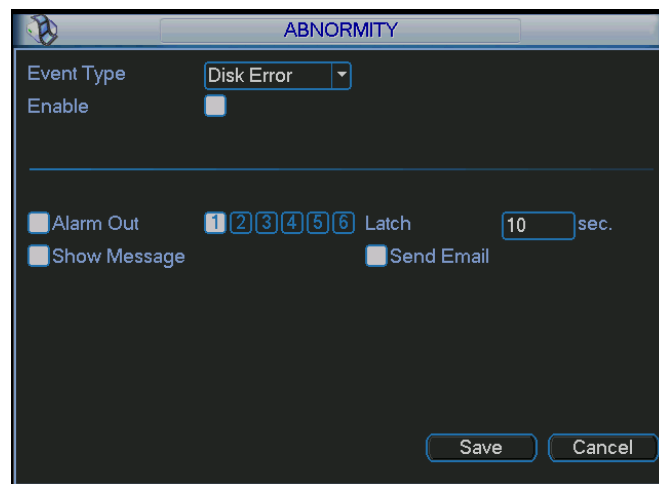

Figure 6-78
- Alarm set: Click alarm set button, the interface is shown as below. See Figure 6-78. (This interface is just like the abnormality setup). Please refer to chapter 6.7.2 for detailed information.